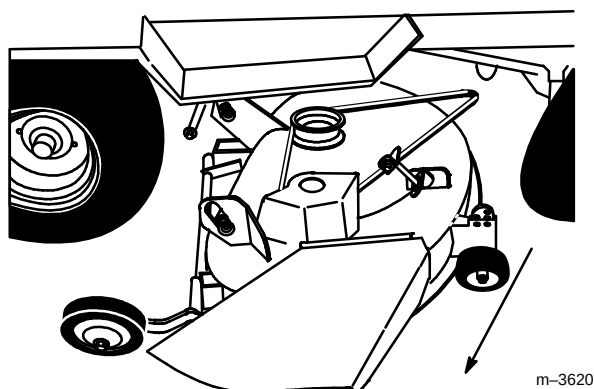

Figure 14
7. Slide deck right, off rear lift arms (Fig. 14).
8. Turn the front wheels fully to the left and raise attachment lift lever all the way to the latched position; refer to tractor Operator's Manual. Slide the mower out from under the chassis to the the right side (Fig. 14)